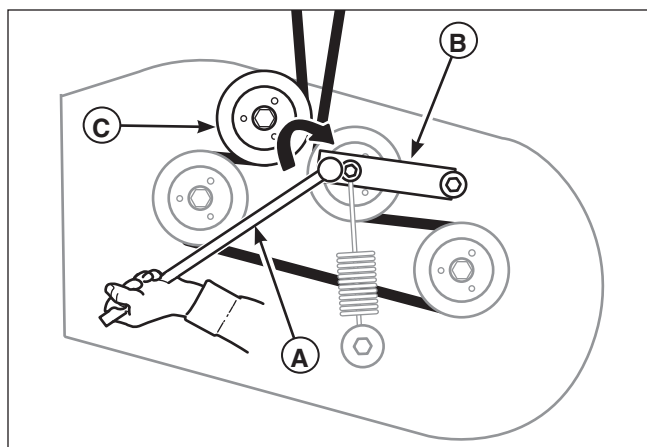
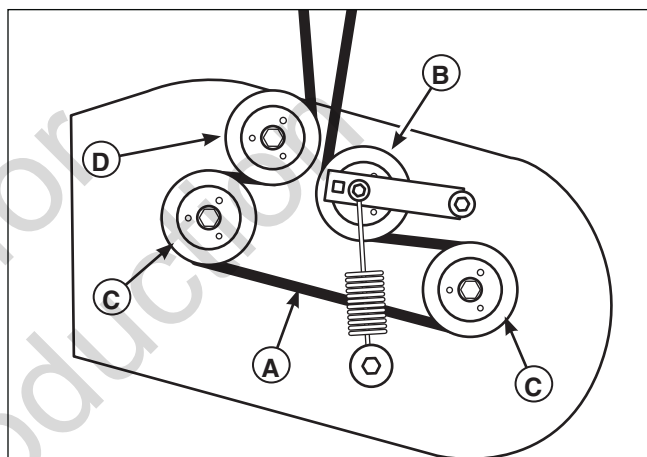

Figure 30. Remove the Mower Belt
Figure 31. Mower Deck Belt Routing
3. Using a 1/2" breaker bar (A, Figure 30), place the square end in the square hole located on the end of the idler arm (B). Carefully rotate the breaker bar **clockwise**, which will relieve the tension on the belt exerted from the idler arm.
4. Slide the mower deck drive belt over the edge of the stationary idler pulley (C). Carefully release the tension on the breaker bar.
5. Remove the old belt and replace with a new one. Make sure the V-side of the belt runs in the pulley grooves (Figure 31).
6. Install the mower drive belt on the PTO pulley, the spindle pulleys and all idler pulleys except the stationary idler pulley (D, Figure 31). Carefully rotate the breaker bar **clockwise** and install the belt on the stationary idler pulley. Carefully release the tension on the breaker bar.